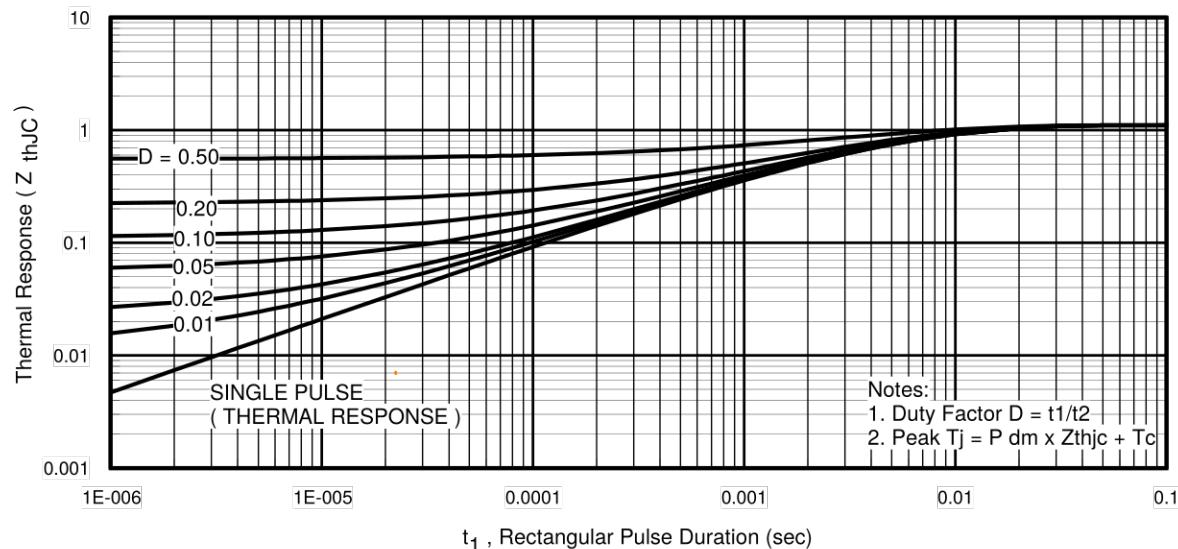
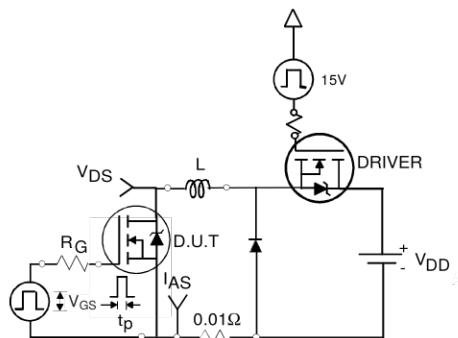

Fig 11. Maximum Effective Transient Thermal Impedance, Junction-to-Case
Fig 12a. Unclamped Inductive Test Circuit
3. Equation below based on circuit and waveforms shown in Figures 12a, 12b.
- $Z_{thJC}(D, t_{av})$ = Transient thermal resistance, see figure 11)
- ① Repetitive rating; pulse width limited by max. junction temperature. (See fig. 11).
- ② Limited by $T_{J\max}$, starting $T_J = 25^\circ\text{C}$, $L = 0.05\text{mH}$ $R_G = 25\Omega$, $I_{AS} = 75\text{A}$, $V_{GS} = 10\text{V}$. Part not recommended for use above this value.
- ③ Pulse width $\leq 1.0\text{ms}$; duty cycle $\leq 2\%$.
- ④ $C_{oss\ eff}$ is a fixed capacitance that gives the same charging time as C_{oss} while V_{DS} is rising from 0 to 80% V_{DSS} .
- ⑤ Limited by $T_{J\max}$, see Fig. 12a, 12b, 15, 16 for typical repetitive avalanche performance.
- ⑥ This value determined from sample failure population. 100% tested to this value in production.
- ⑦ This is only applied to TO-220AB package.
- ⑧ This is applied to D²Pak, when mounted on 1" square PCB (FR-4 or G-10 Material). For recommended footprint and soldering techniques refer to application note #AN-994.